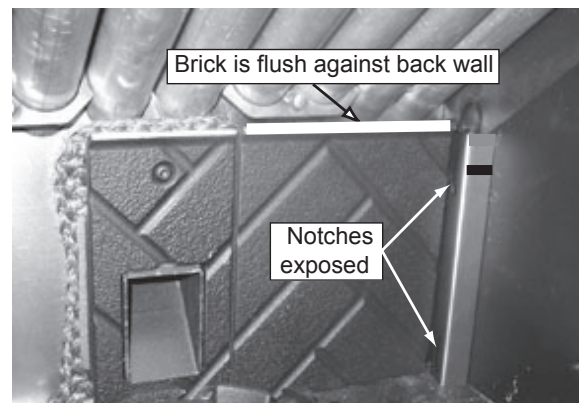

Figure 21.5
2. The brick will be flush against the back wall and notches exposed in the side bracket. **Figure 21.5.**